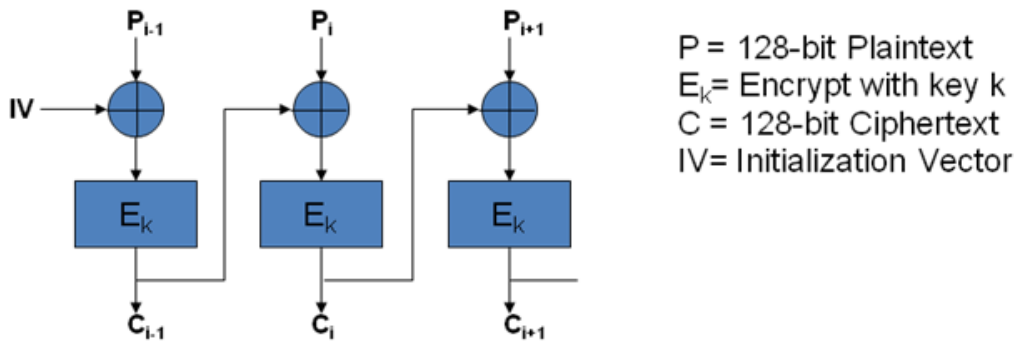

Figure 3. Cipher Block Chaining
As you can see from Figure 3, CBC is similar to ECB except that the cipher text from the previous encryption block is XOR'd with the plain text in the current block. This effectively randomizes the clear text in every stage and prevents cipher text duplications. Ah yes, but what about the first stage? Clearly there is no cipher text available to the first stage, so we've compensated for this by adding a component called the **Initialization Vector (IV)**. This isn't magic, it's simply a secret 128-bit number known only to the disk drive.